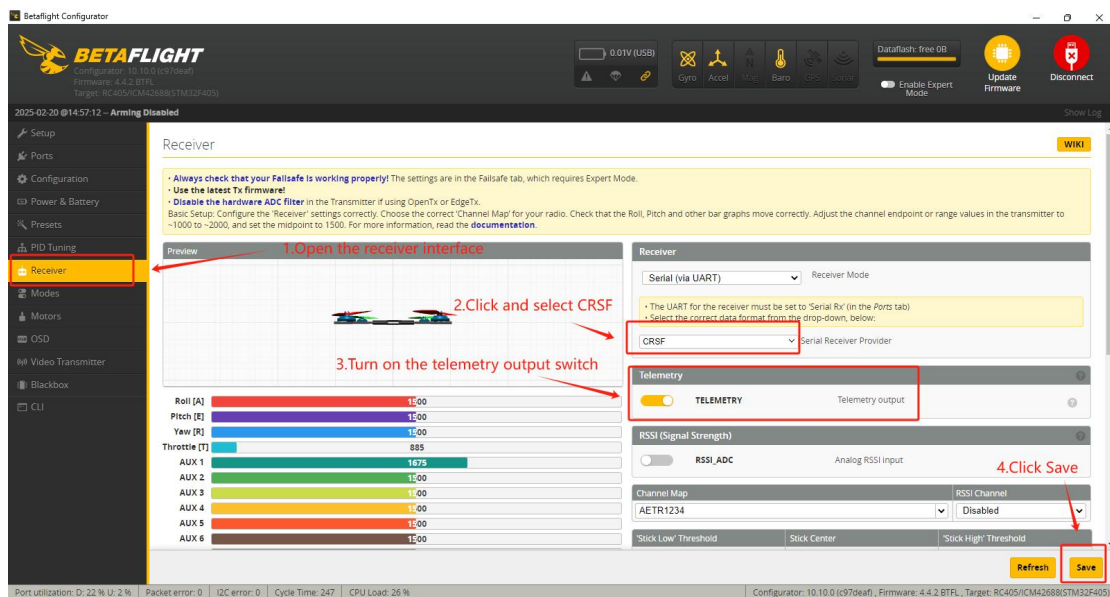

Fig 7.1.6 Flight Control Receiver Interface Settings
- ① Make sure to change the serial digital receiver protocol to the CRSF protocol.
- ② Turn on the telemetry output switch and click "Save", as shown in Figure 7.1.6.